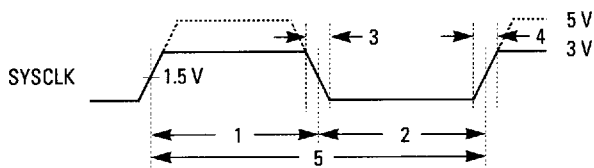

Figure 2
- Cold Reset Timing (Figure 2)